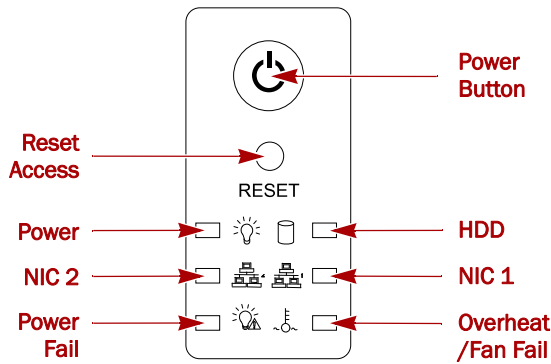

Figure 16. Front Panel Controls and Indicators
To turn the appliance **ON**, press and hold the Power button (Figure 16) for no more than one (1) second to begin the power-up sequence.